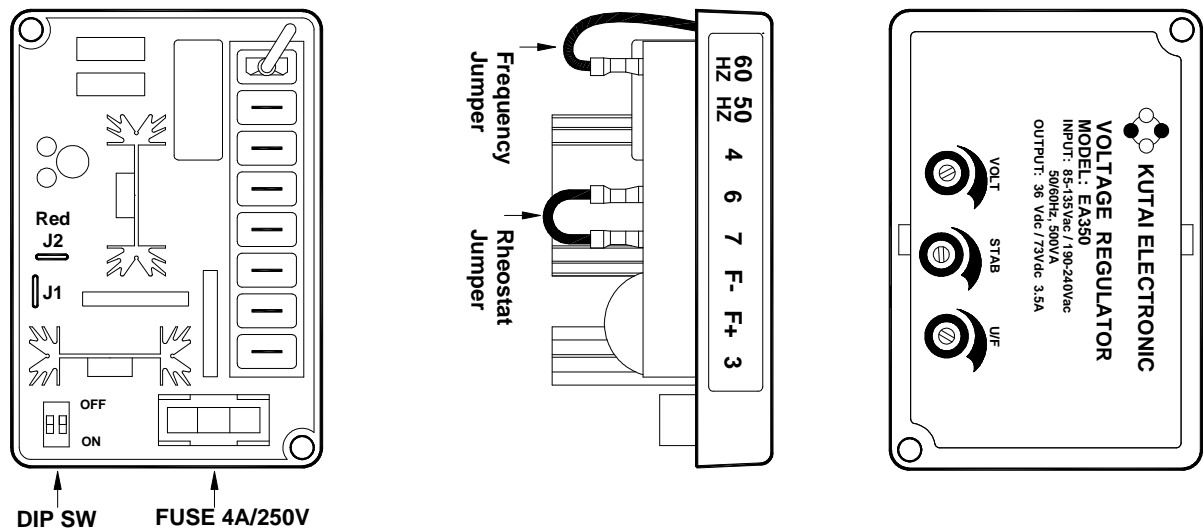

Figure 2 Jumper and Potentiometer Control Locations
- The EA350 potentiometer controls are accessible through the controller front panel and are shown in Figure 2.
When excitation under voltage, it can result in insufficient adjustment range for stability adjustment and when excitation over voltage, the response from the AVR becomes sluggish. The AVR is equipped with 2 bridging wires J1 and J2 to help improve or relief the condition. See Figure 2.